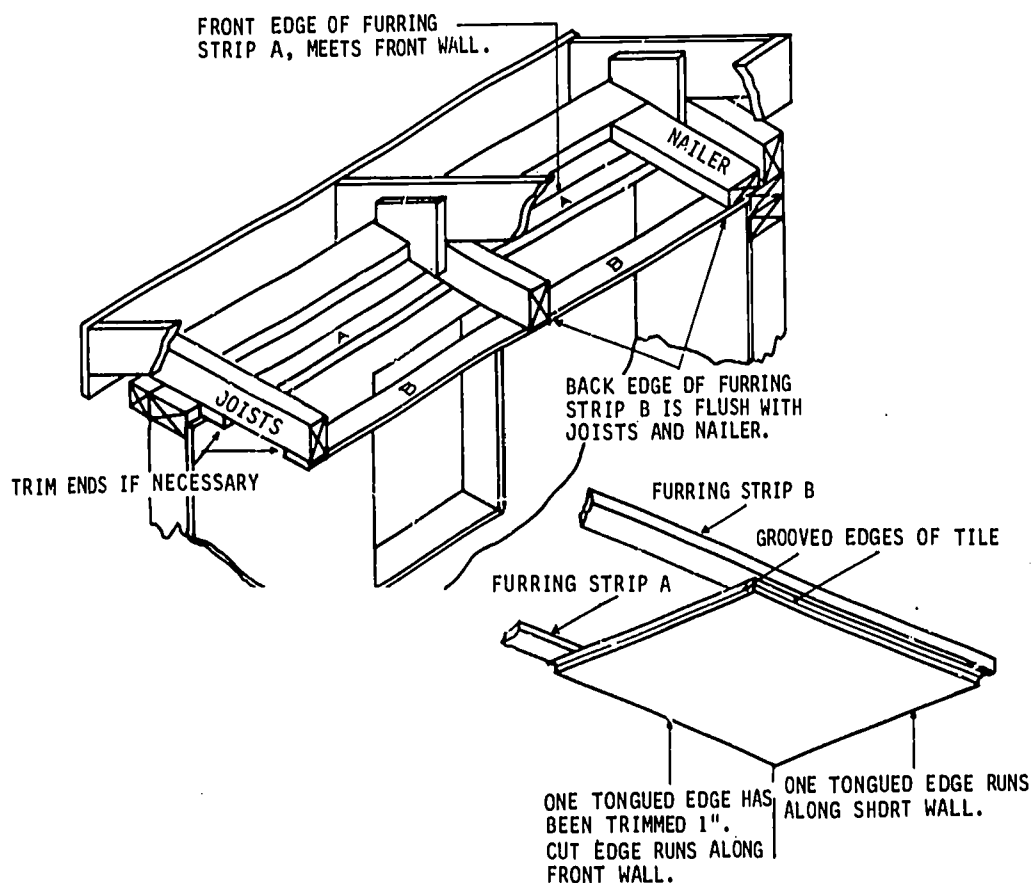

Fig. 62-1. Furring Strips in Position for Nailing
2. Measure across the ceiling and cut the furring strips to the proper length if necessary. See Fig. 62-1.
3. Nail Furring Strip A with one edge against the front wall. Nail Furring Strip B flush with the ends of the joists and nailer. See Figs. 62-1 and 62-2.